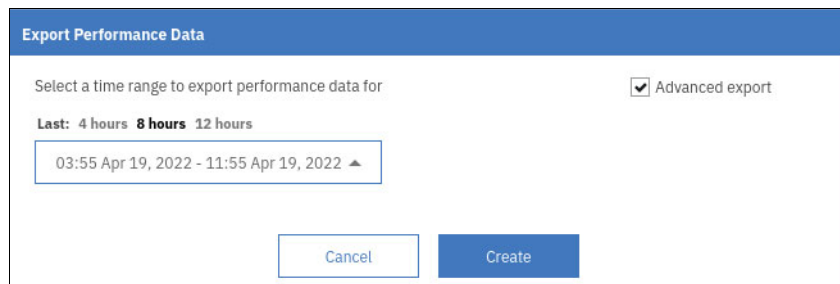

Figure 9-83 IBM Spectrum Control: Export Performance Data - Advanced Export
To include volume data and 1-minute sample data, select the **Advanced export** option (see Figure 9-83 on page 632) when you export performance data.
3. Select the time range of the performance data that you want to export. You can use the quick select options for the previous 4, 8, or 12 hours, or specify a custom time range by clicking the time and date. Click **Create** (see Figure 9-83).